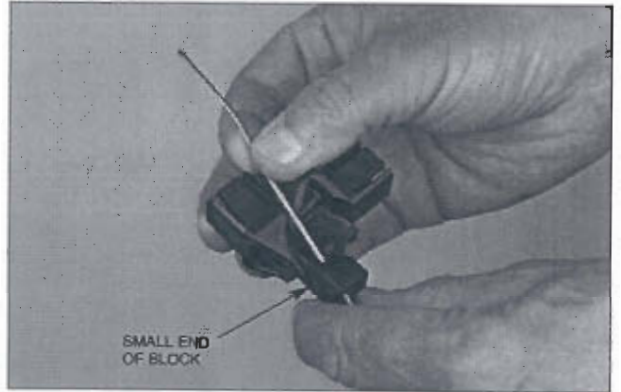

FIGURE 65
2. Thread the wire rope through the small end of the block into the bearing area to be used. See Figure 65.